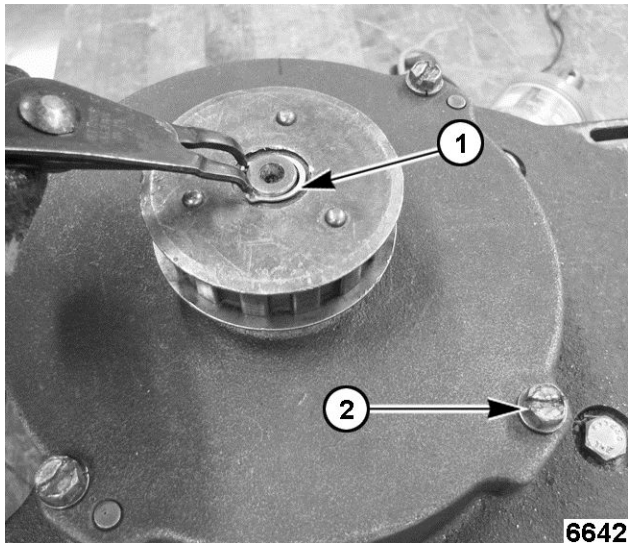

Fig. 147
2. Remove the retaining ring (1, Fig. 147) that holds the drive pulley in place. Remove the drive pulley and key.
3. Remove the bolts (2, Fig. 147) from the gear case cover. Tap the cover lightly to break the seal and pry it off the locating pins.